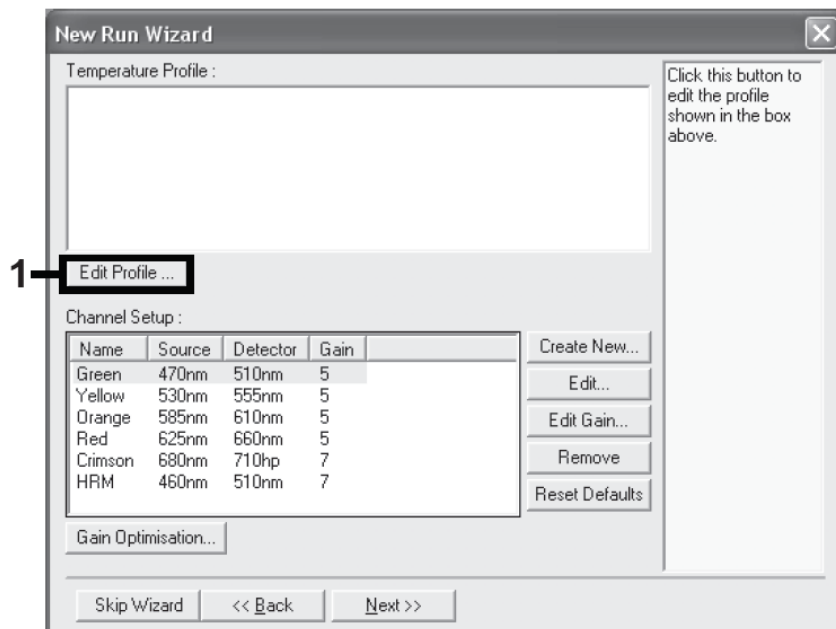

Figure 3. Editing the profile.
4. *Figure 3* Example of Control Template Amplification